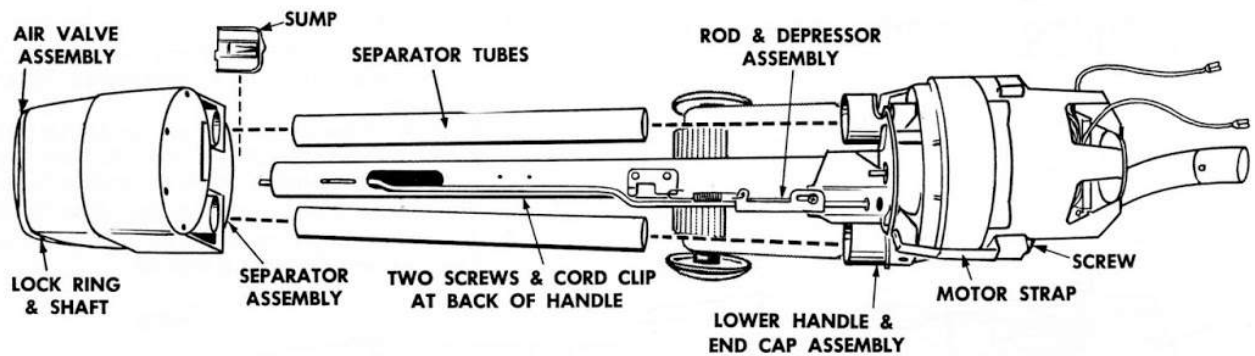

Fig. 6
- d. Pull Separator Assembly, Sump and Separator Tubes from handle and motor housing end cap assembly. *See Fig. 6.*